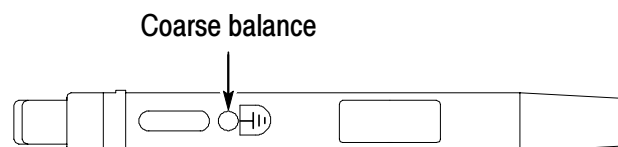

Figure 2: Coarse Balance Adjustment
6. If you cannot zero the display as described in step 5c, use the coarse balance adjustment (Figure 2) to center the range of the thumbwheel.